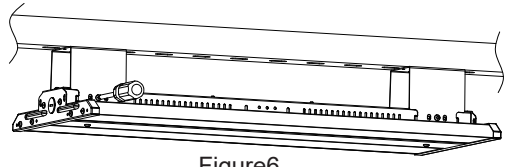
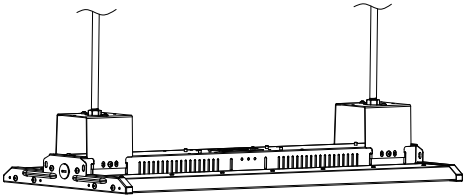

Figure6
Figure7
Step 2: Mount bolt on the rail or ceiling, mount the fixture bracket onto the bolt (figure 6) and then install the fixture (figure 7)